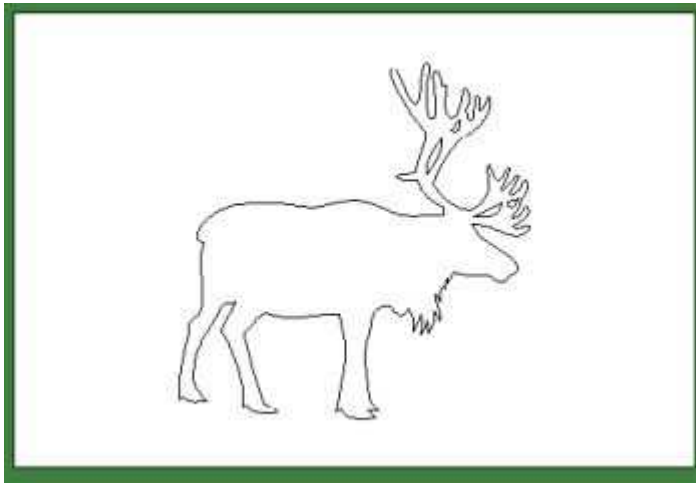

Figure 1
- 1 You can select an image from the Clipart in the U-MARQ Engraving Software or Import one from another source, see Figure 1.